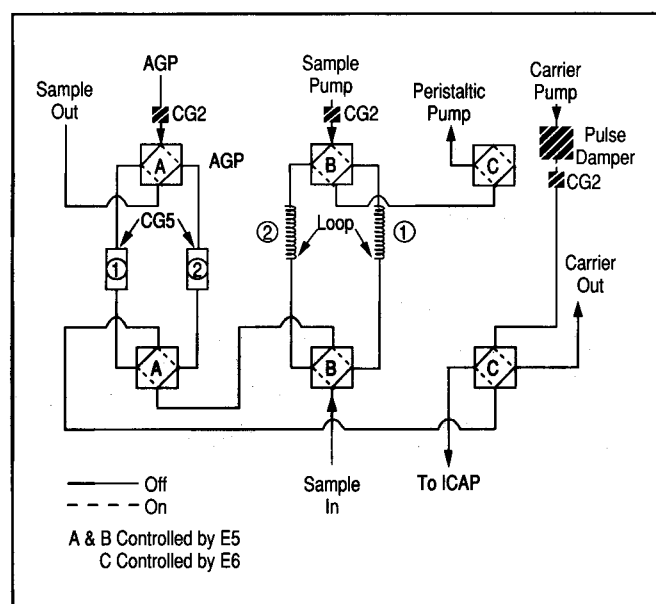

Figure 2 Pneumatic and hydraulic schematic of the sample preconcentration system
Figure 2 shows a detailed pneumatic and hydraulic schematic of the sample preconcentration system. The SCM is factory-configured for chelation concentration sample pretreatment. The following set-up procedure is required for this application.
Locate the four valves in the SCM. Remove all the tubings connected to the four valves. The first valve on the far left will not be used for this configuration. Designate each valve by starting from the second valve to your right as A, B, and C. Confirm that valves A and B are controlled by E5 and valve C is controlled by E6 of the AGP. Plumb the system as indicated in Figure 2. The 0.020-in. I.D.
1. Confirm that the SCM is configured as shown in Figure 2. Be sure that the three IonPac CG2 columns are installed between: 1) the sample pump and valve B; 2) the carrier pump and valve C; and 3) the AGP and valve A (see Figure 2). Install the two IonPac CG5 columns in valve A.
The purpose of this system test is to ensure that all chromatographic and chemical components of the system are operating properly. Refer to Figure 2 for the system schematic. Be sure to check all fittings for leaks during the system test.